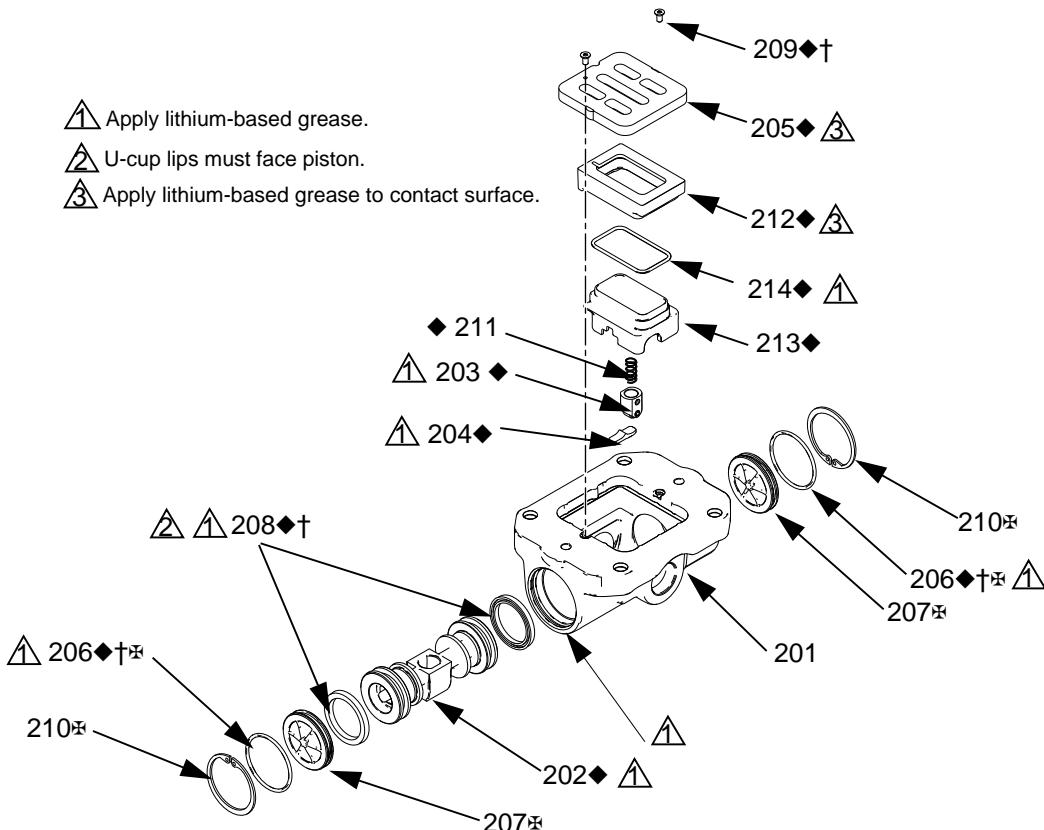

FIG. 2. Air valve assembly
2. See FIG. 2. Use a Torx screwdriver (T8 for aluminum centers, T10 for plastic centers) to remove two screws (209). Remove the valve plate (205), cup assembly (212-214), spring (211), and detent assembly (203).
3. Pull the cup (213) off of the base (212). Remove the o-ring (214) from the cup.
4. See FIG. 2. Remove the retaining ring (210) from each end of the air valve. Use the piston (202) to push the end cap (207) out of one end. Remove the u-cup seal (208). Pull the piston out the end and remove the other u-cup seal (208). Remove the other end cap (207) and the end cap o-rings (206).
5. Remove the detent cam (204) from the air valve housing (201).